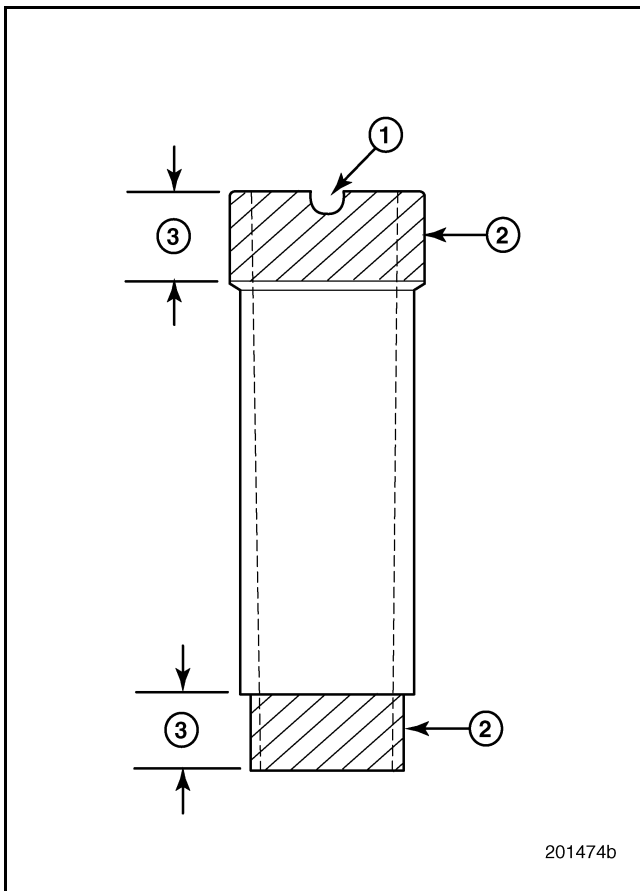

Figure 270 — Fuel-Injection Nozzle Insert
2. Apply Loctite® 620 to the cylinder head and insert surfaces. Refer to Figure 270.